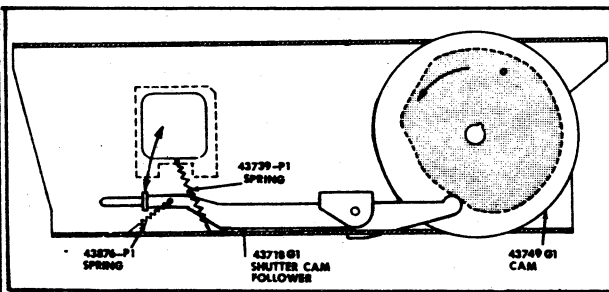
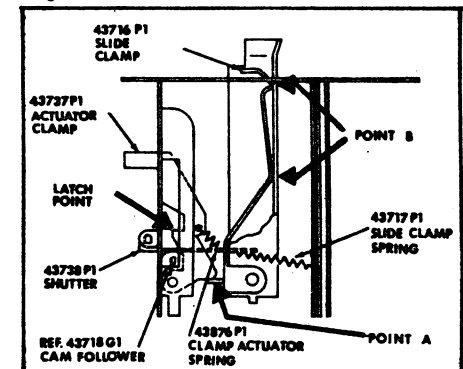

Figure 7. SHUTTER-CAM #4
Figure 9. SHUTTER
b. Form clamp legs lightly so both legs just touch at point "B" (Figure 9).
- a. Shutter cam #4 (Fig. 7) causes its follower to lift and close shutter and then catch on point "A" (Fig. 9) and hold shutter closed if a slide does not drop in at end of cycle.